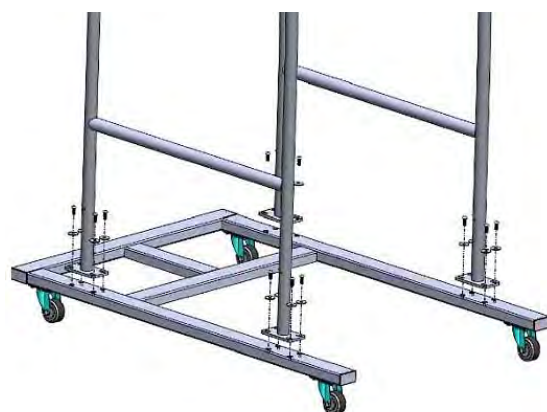

Fig. 7: Mount frame
Step 3: Secure the bracket to the chassis with bolts and washers (Fig.7).